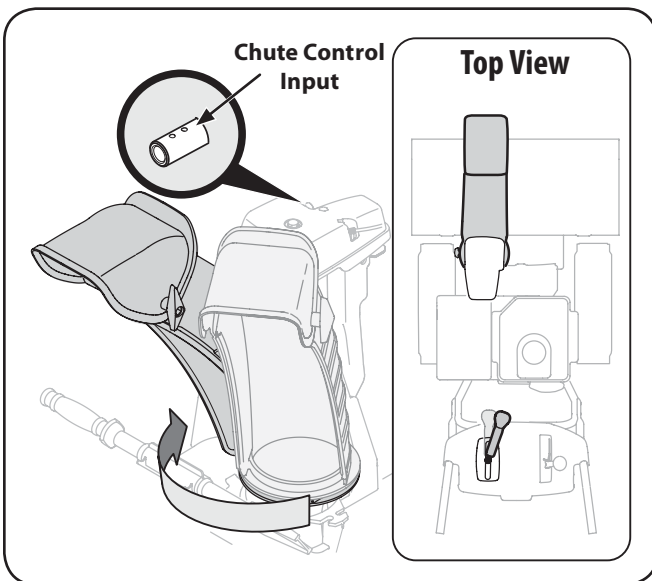

Figure 3-5
- Squeeze the trigger on the joystick and rotate the chute by hand to face forward. The holes in the chute control input will be facing up. See Fig. 3-5.